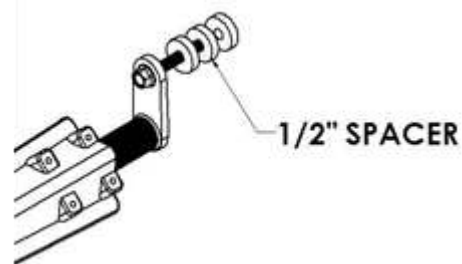

Figure 7
- C. Spacers are supplied to bring the steel swivel away from the frame in the event of any obstructions (Figure 7).